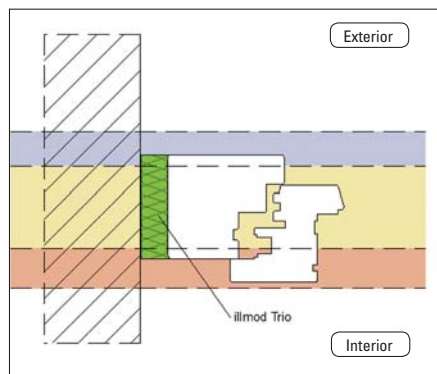

Figure 6
**Examples of use of illmod Trio** (see Figures 6 to 15)